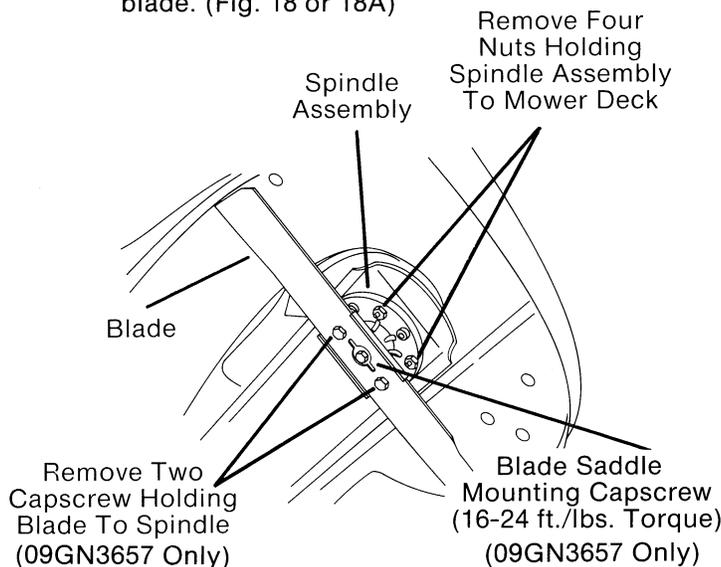

FIG. 18 53.0006
- E. With blade still blocked, remove hardware holding blade to spindle assembly. Remove blade. (Fig. 18 or 18A)
- F. Remove four nuts holding spindle assembly to mower deck. (Fig. 18) Pull spindle assembly out bottom of deck.
IMPORTANT: (09GN3657 Only) Check also at this time the tightness of the blade saddle mounting capscrew (Fig. 18) (16-24 ft./lb. torque).